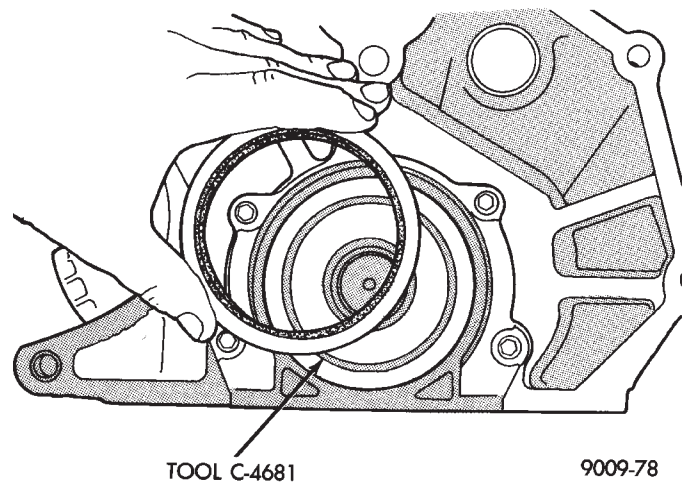

Fig. 10 Installing Rear Crankshaft Oil Seal
- (1) Place Special Seal Pilot Tool C-4681 on crankshaft (Fig. 10).
- (2) Lightly coat seal O.D. with Loctite Stud N'Bearing Mount or equivalent.
- (3) Place seal over Special Seal Pilot Tool C-4681 and tap in place with a plastic hammer.